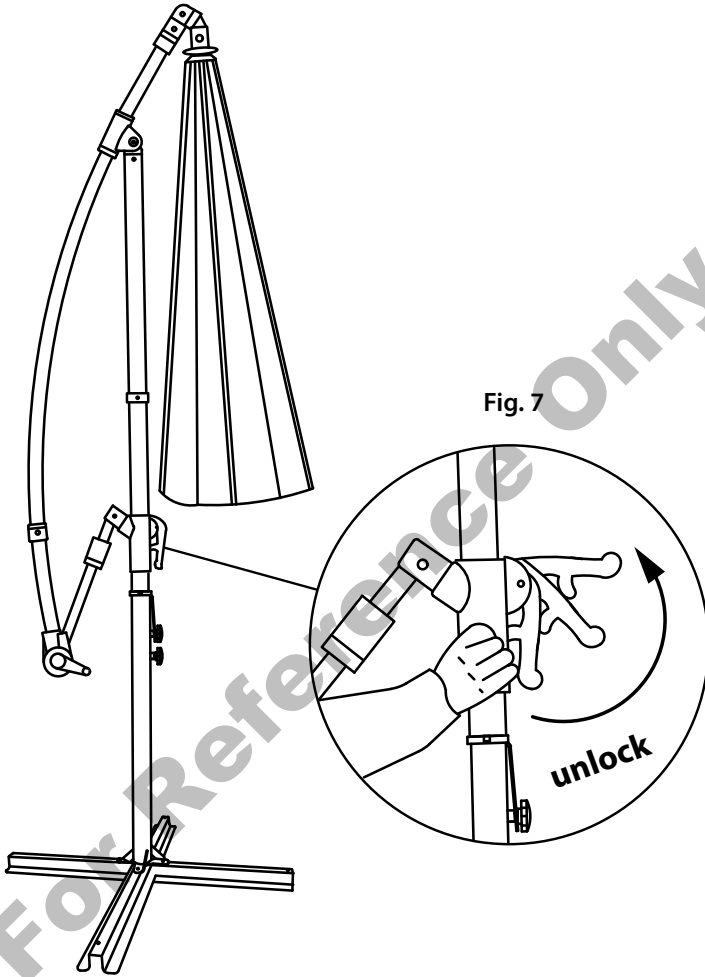

Fig. 7
Release lever on the Umbrella Frame (A) by lifting it up to unlock it, see Fig. 7.
***Please note that the umbrella canopy is not intended to be stiff when fully opened as is meant to have some room to sway. This is needed so that the umbrella canopy can fold nicely against other components of the Umbrella Frame (A) when not in use.**